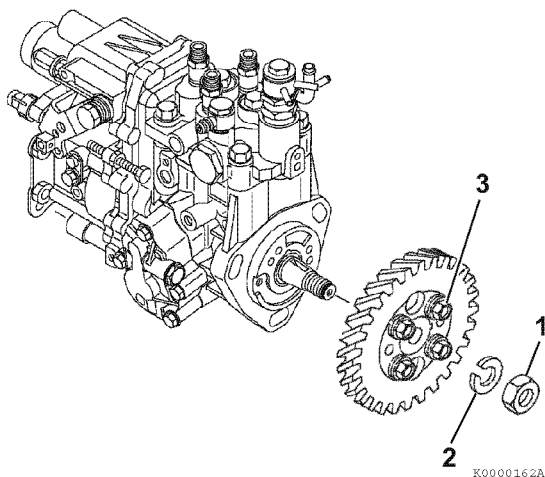

Figure 7-14
16. Do not loosen or remove the four bolts (3, **Figure 7-14**) retaining the pump drive gear to the hub. Loosen the drive gear mounting nut (1, **Figure 7-14**), leaving the hub attached to the gear.
18. Hold the gear train using a large socket wrench on the crankshaft pulley nut. Loosen the fuel injection pump drive gear retaining nut (1, **Figure 7-14**) and turn it out to the end of the fuel injection pump shaft. (Until the tip of the camshaft is hidden.)